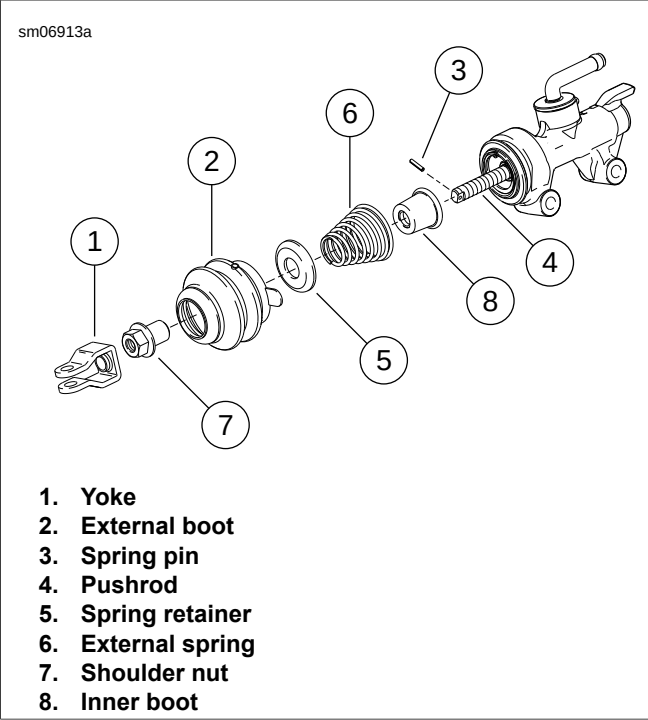

Figure 2-84. Rear Brake Master Cylinder
1. See Figure 2-84. Clamp rear brake master cylinder in a vise with yoke (1) pointing up.
2. Remove external boot (2). Remove spring pin (3) from end of pushrod (4). Discard spring pin.